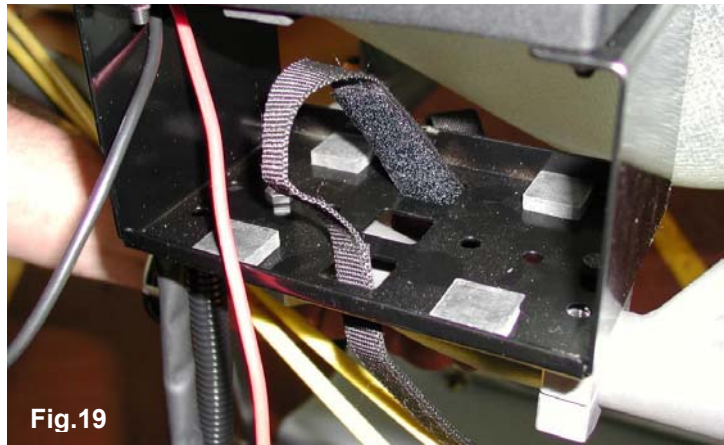

Fig.19
3.7.4 INSERT THE BATTERY STRAP (SEE FIG. 19).